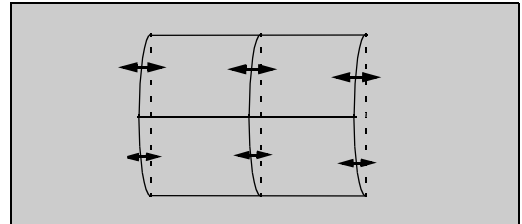

Figure 47. **Corner adjustment**
14. Adjust by pressing VOL right-left (see figure 47).
32. Adjust corners (see figure 47)